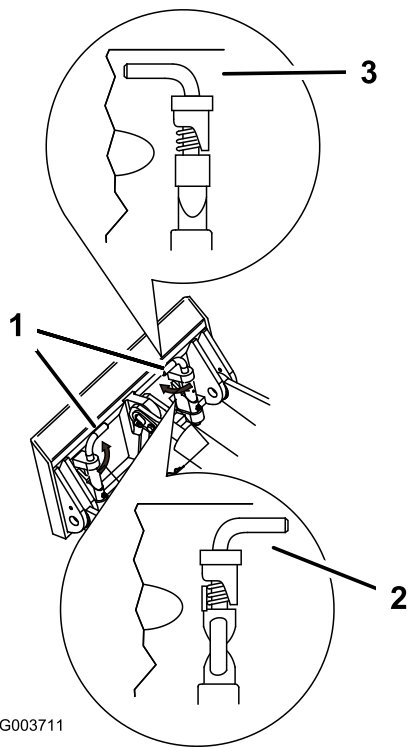

Figure 33
7. Engage the quick-attach pins, ensuring that they are fully seated in the mount plate (Figure 33).